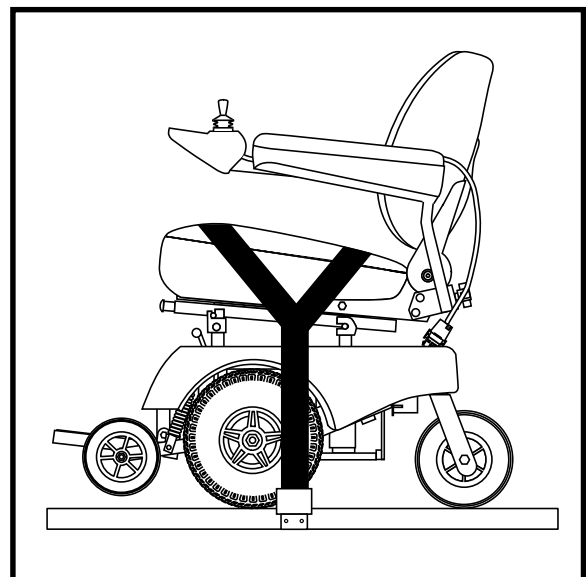

Figure 7. Tie-down Strap Placement
5. Secure the mobility device to the platform using either the tie-down straps for power chairs or the automatic lock-down arm for scooters. Drape the tie-down straps tightly over the seat and secure the straps to the platform, ensuring that there is no excess slack over the seat. See figure 7.
6. Turn and hold the key counterclockwise to raise the lift. See figure 7. Continue to raise the lift until the motor stops, then release the key.